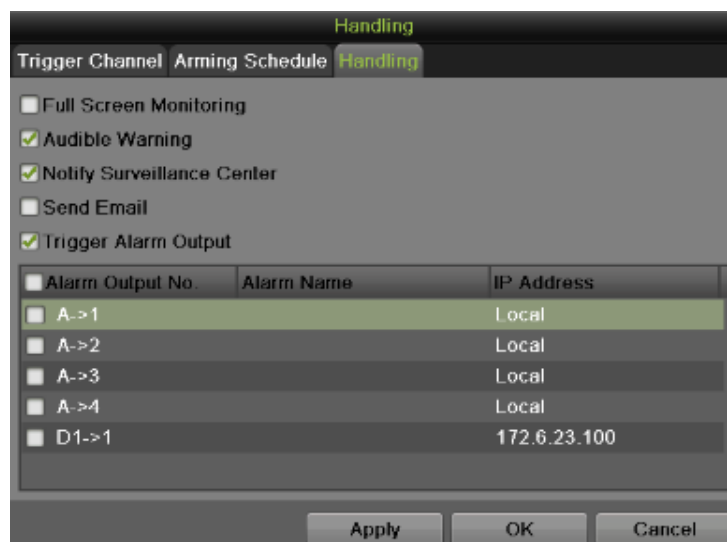

Figure 135 Trigger Alarm Output Settings Menu
- **Trigger Alarm Output:** DVR will trigger alarm output when motion is detected. When you check the Trigger Alarm Output checkbox, there will display a choose box to select Alarm Output No., as shown in **Figure 135**.